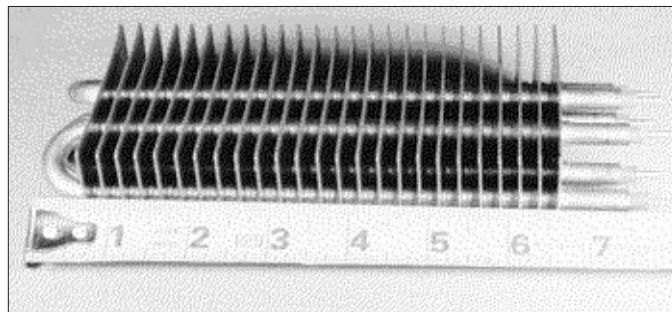

FIGURE 2
Baseboard heating units are usually installed under windows to heat infiltrating cool air. The unit should sit at least 3/4" above the finished floor or carpet to allow cooler air on the floor to reach the radiator fins (Fig. 2) so it can be heated. The heater should also be installed tightly to the wall to prevent warm air from convecting behind it and streaking the wall with dust particles. The quality of baseboard heaters varies. Cheaper models can be noisy when expanding and contracting, and have poor temperature control. New models are not significantly improved from older models, but may be more compact. Units should carry Underwriter's Laboratories (UL) and the National Electrical Manufacturer's Association (NEMA) labels. Units 2' to 12' long rate from about 100 to 400W/ft. Electric hydronic baseboards are rated from 300 to 2,000 W.